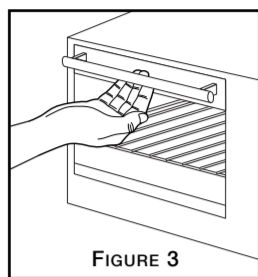

FIGURE 3
**Step 1:** Grab the center of the handle underhanded with fingertips (See Figure 3).